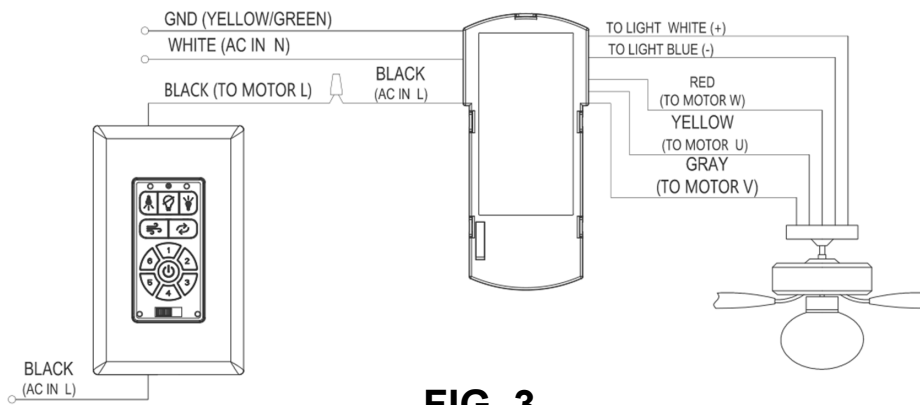

FIG. 3
Step 2. Connect the black "To Motor" wire from the transmitter to the black wire going to the fan/receiver. Connect the black supply wire from the outlet box to the black wire marked "AC IN L" on the transmitter **(Fig. 3)**.